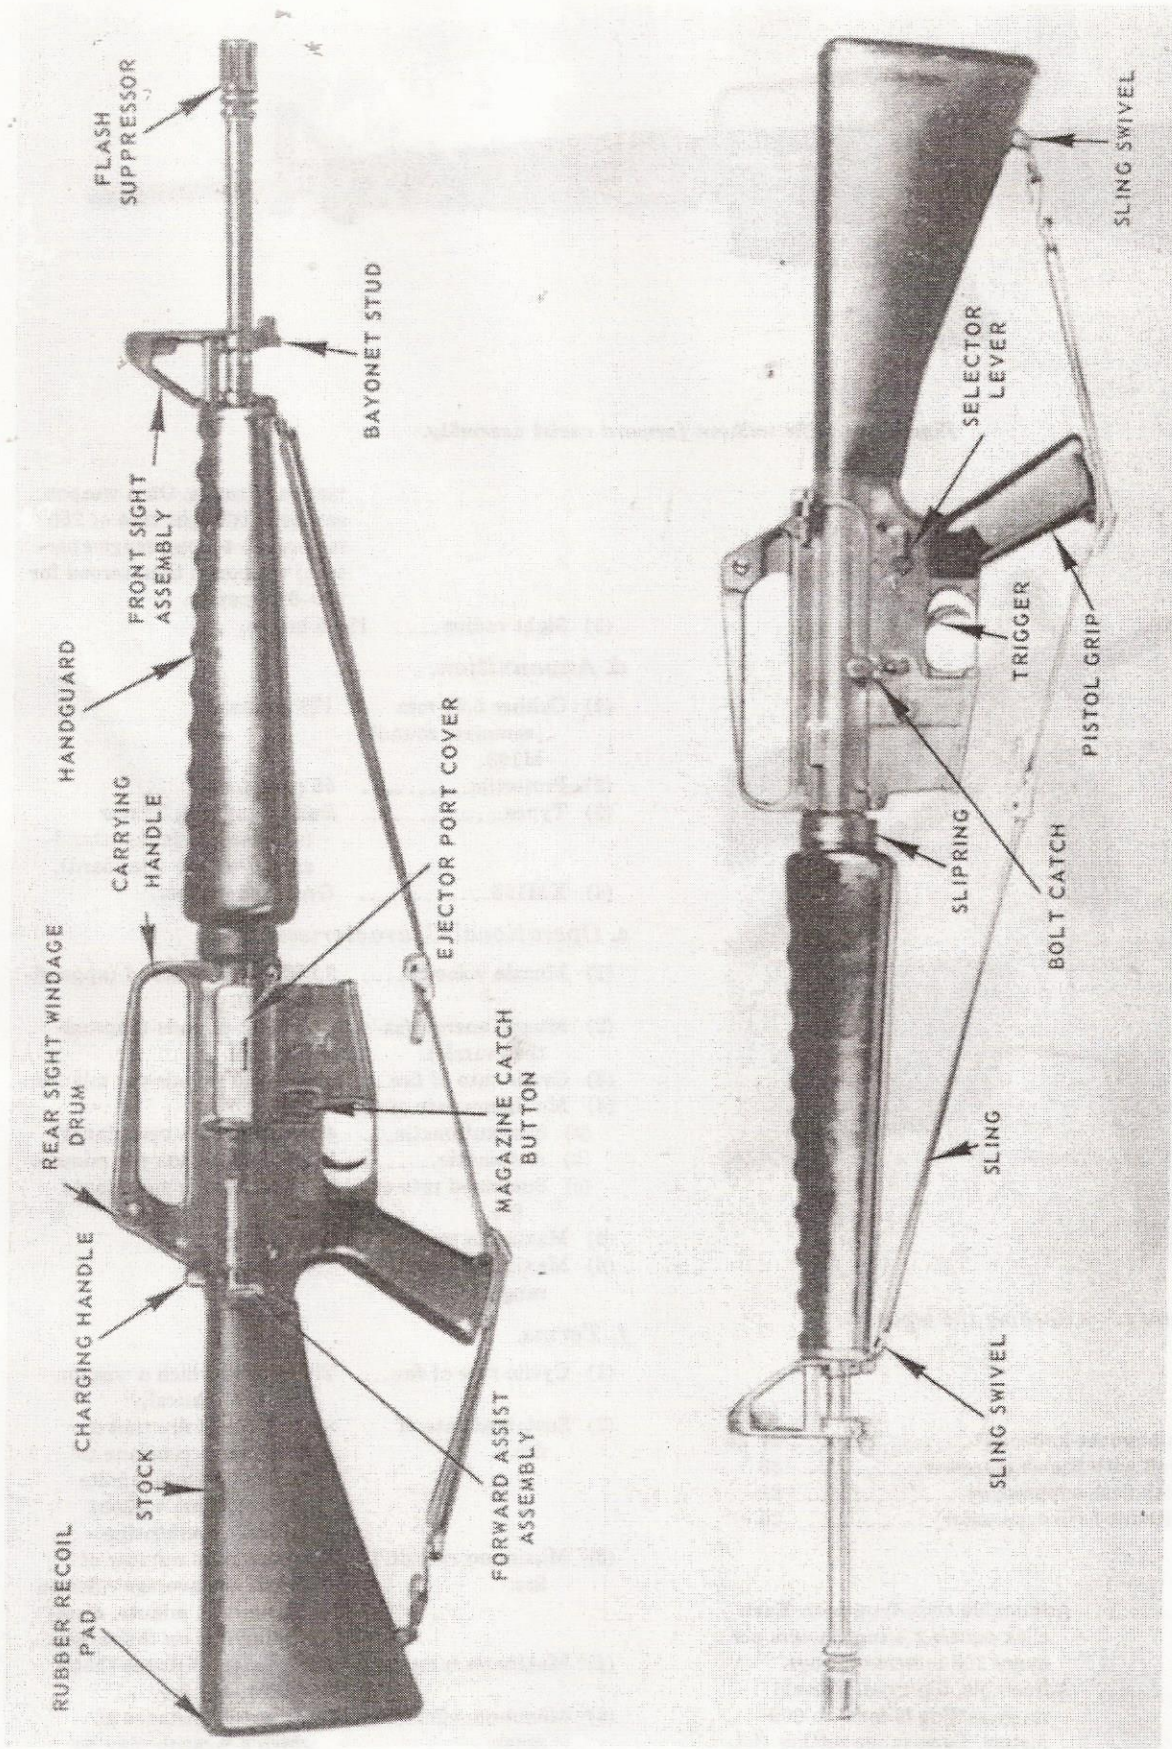

Figure 1. Rifle, 5.56-mm, M16A1, right and left side views.
a. The rifle, M16A1 (fig 1), is a 5.56-mm, magazine-fed, gas-operated, air-cooled, shoulder weapon. It is designed for either semiautomatic or full automatic fire through the use of a selector lever.